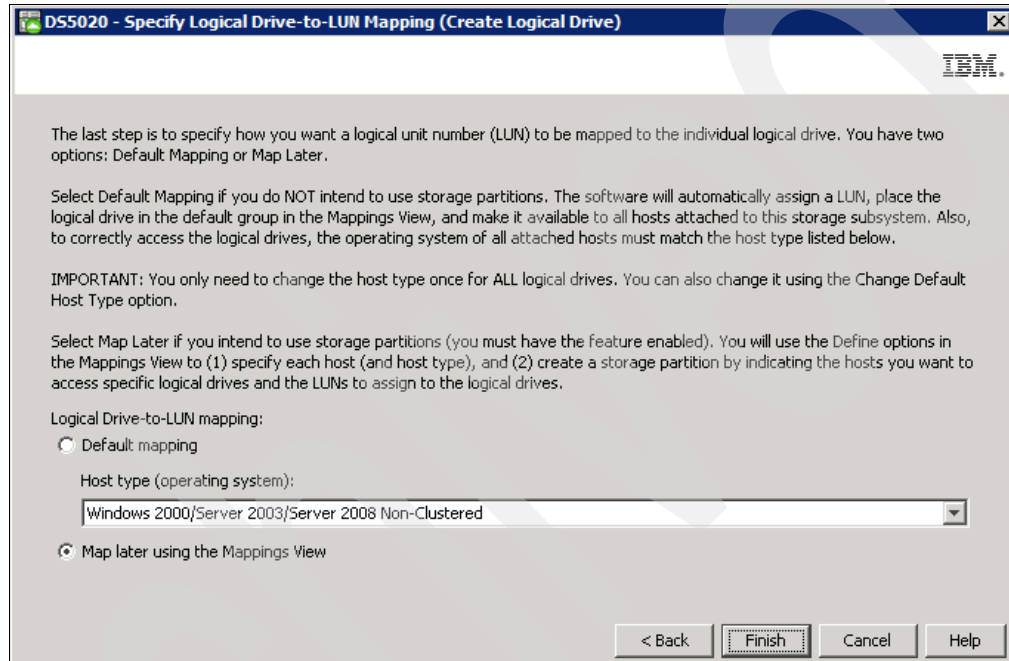

Figure 4-62 Logical drive mapping
- The Specify Logical Drive-to-LUN Mapping window opens (Figure 4-62). This window allows you to choose between mapping your created logical drive to the default group or to “Map later using the Mappings View.” If you choose the Default mapping, then the physical volume is mapped to the default host group and is available to any host zoned to the DS5000 storage subsystem, so it is not the recommended choice if your DS5000 storage subsystem supports more than a single partition.